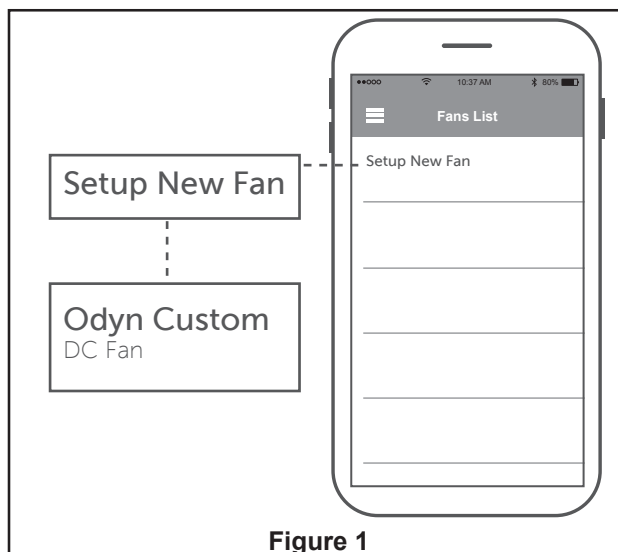

Figure 1
1. Open the fanSync app and tap the new fan to begin setup. (Figure 1)
- ☐ 1. **Installing Wall Plate:** (Figure 1)